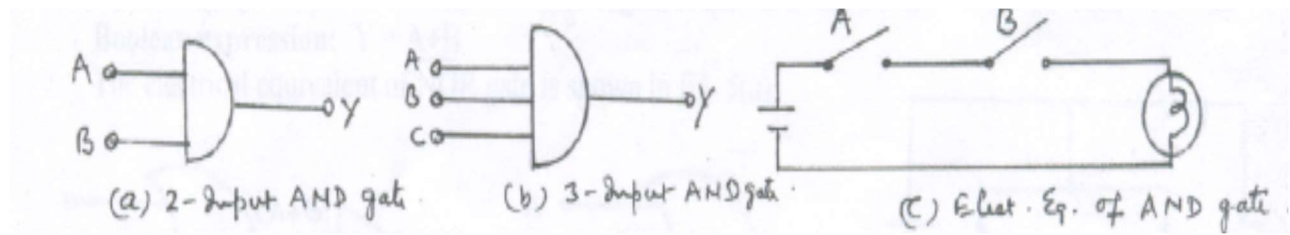
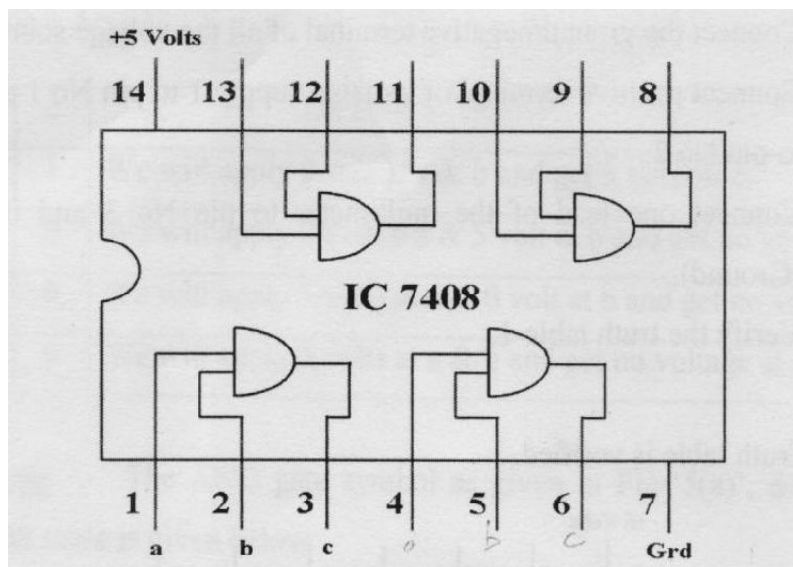

Fig.1
Fig.2
1. Connect the circuit as shown in fig. 1.
The standard symbol of AND gate is as shown in fig. 1(b) and Boolean expression as below.
Here dot (.) or cross (x) is placed between symbols to represent AND operations. The above equation is to read as “Y equals to A dot B”, $Y = A \cdot B \cdot C$ (for three input AND gate). The electrical equivalent of switching circuit of two input AND gate is shown in fig. 1(c). The IC diagram is shown below in fig2.